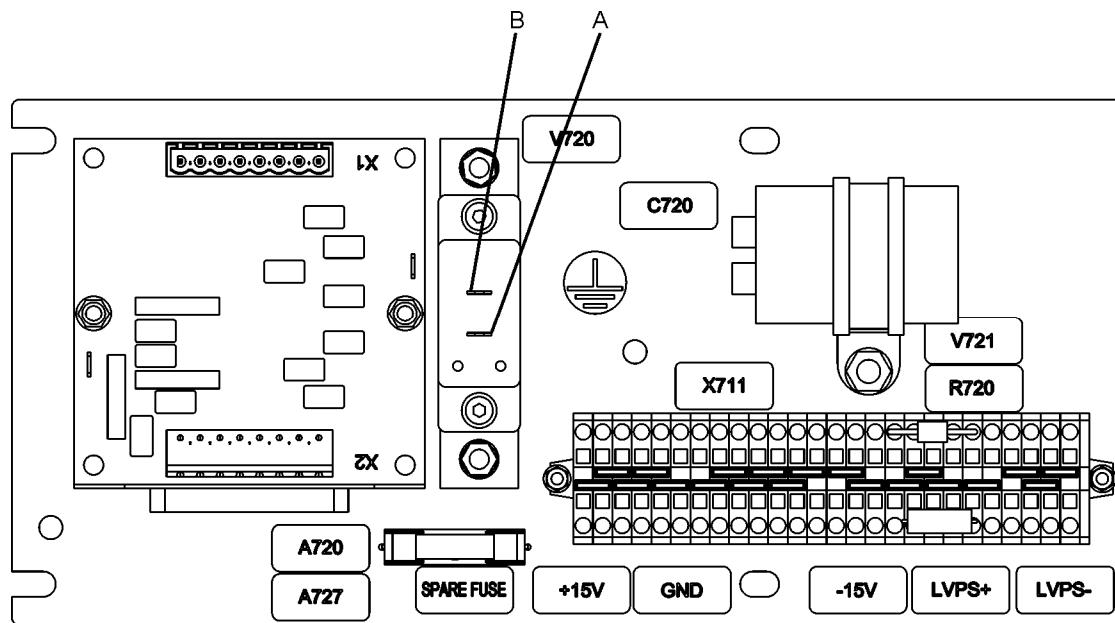

Figure 5-64: V720 Electrical Connections
- a. There are two cable attachments (see Figure 5-64) labeled A and B which connect to the V720 using Fast-on connectors. Disconnect these cables.
3. Insert V720 (see Figure 5-64). Place the diode with the cathode toward the interior of the APS and the anode toward the door of the APS.
- a. There are two cable attachments (see Figure 5-64) labeled A and B which connect to the V720 using Fast-on connectors. Connect these cables.